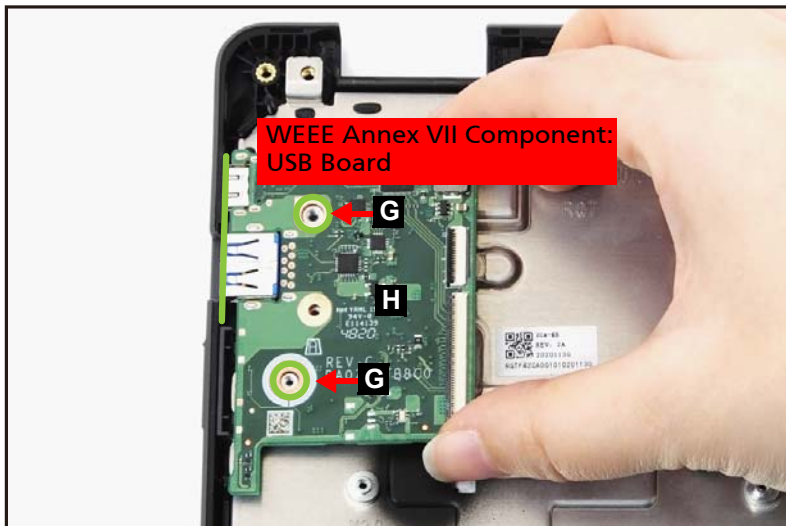

Figure 1-26. USB Board Removal
5. Release the USB board from the USB port slot and guide pins (G) on the top assembly. Then remove the USB board (H) (Figure 1-26).